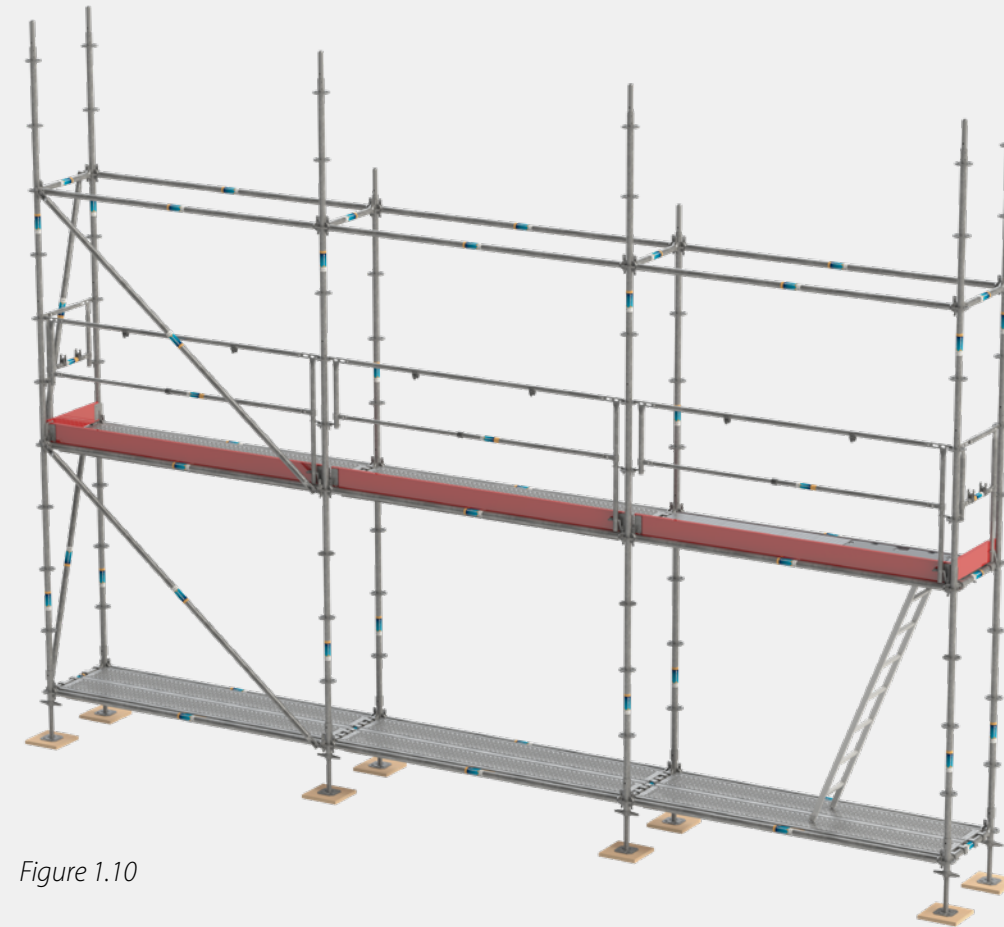

Figure 1.10
1.2.12 From the first scaffold level, the next set of 2 metre standards, ledgers and diagonals can be positioned (see figure 1.10). There is no need to replace the PAGs with ledgers, as the PAG is a permanent guardrail that remains in place until the entire scaffold is dismantled.